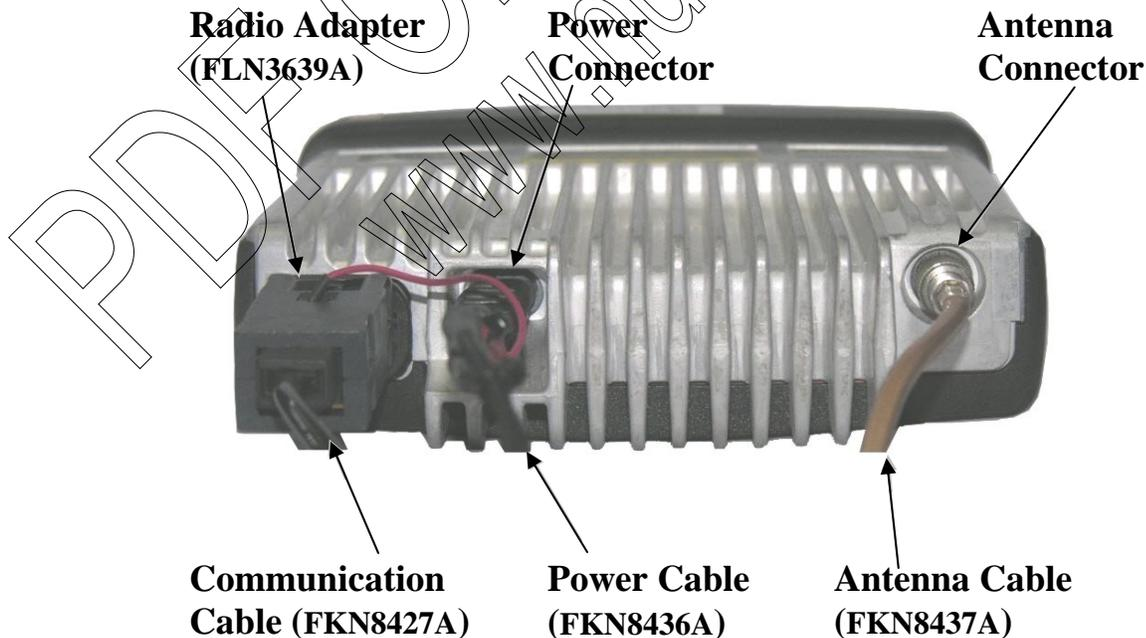
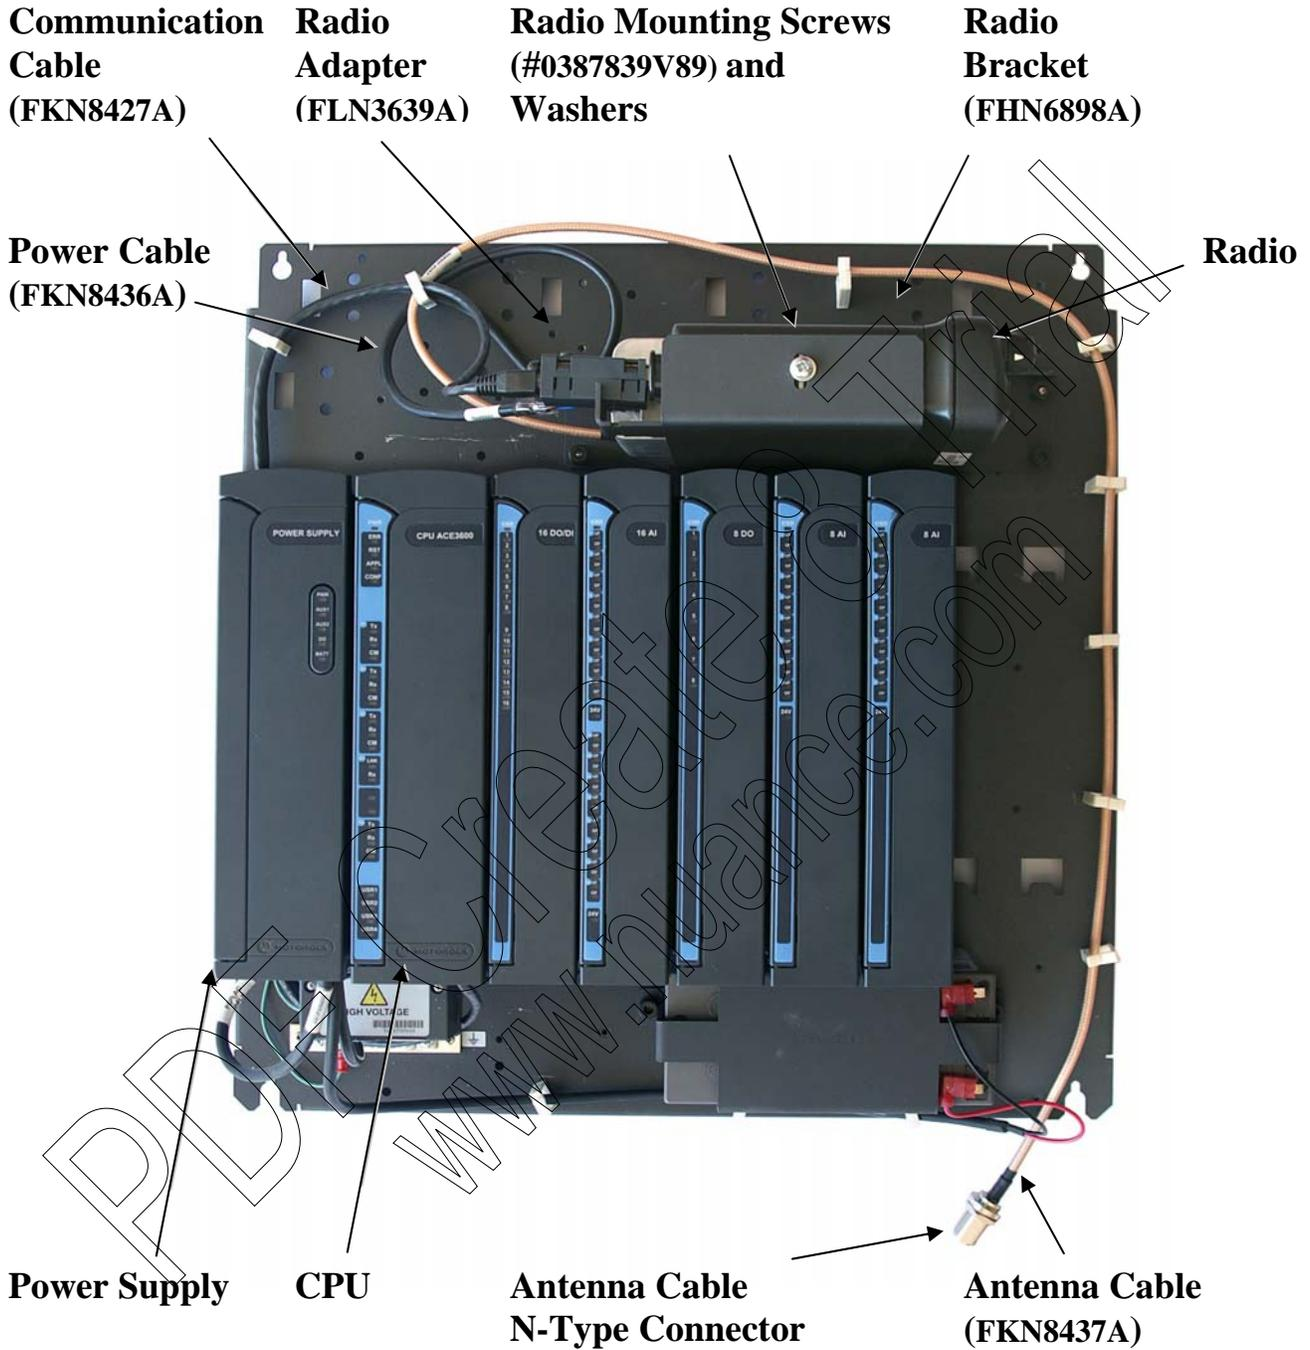

Figure 21-13 CDM750 Antenna, Power and Communication Cable Connections
Figure 21-15 CDM750 Radio Installed on ACE3600 Chassis
2. Connect the radio adapter (FLN3639A) 16-pin connector to the radio Accessory connector (See Figure 21-13.)
4. Connect the antenna cable (FKN8437A) to the Antenna connector on the radio and to the opening on the bottom of the ACE3600 RTU housing, using the four supplied screws. See Figure 21-13 and Figure 21-15.)
6. Attach the complex (radio + bracket) using the four supplied screws to the ACE3600 chassis. See Figure 21-15 below.